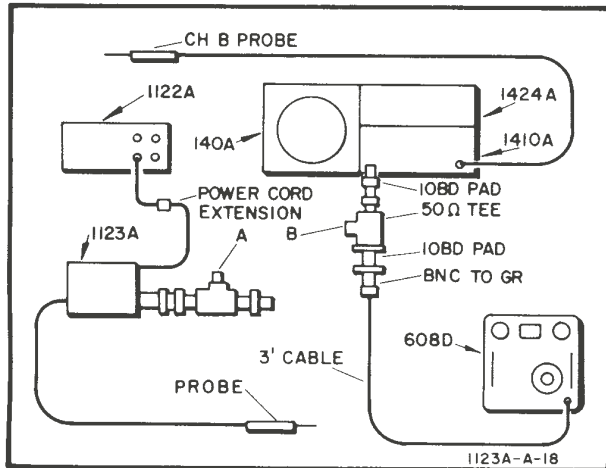

Figure 5-7. Bandwidth Test set-up
- a. Connect the equipment as shown in Figure 5-7.